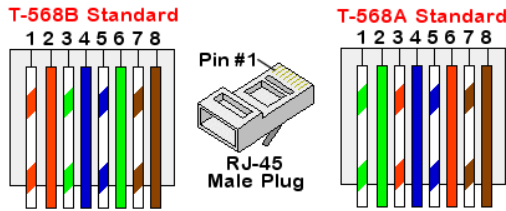

Figure 17: Standard cable wiring
- Insert the eight wires into an RJ45 connector, as described in Figure 17.
- 5** For the switch/router side, use a pre-terminated cable or use a crimper to prepare an RJ45 communication connector: Insert the eight wires into the RJ45 connector in the same order as in Figure 17.